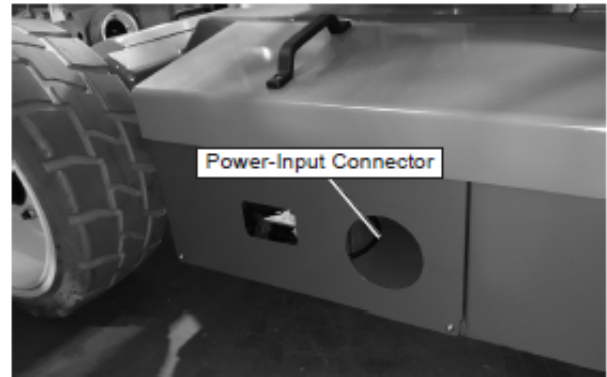

Figure 8.19 – Power-Input Connector
1. Connect a source of 110 volt AC power to the power-input connector on the right side of the chassis (refer to Figure 8.19).